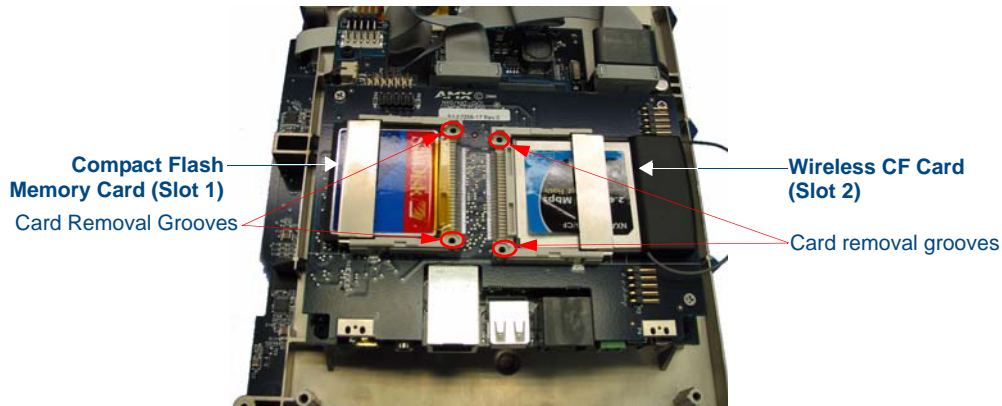

FIG. 5 Location and orientation of the card slots
1. Discharge any static electricity from your body by touching a grounded metal object and then locate the existing 128 MB Compact Flash card on the main board (FIG. 5).